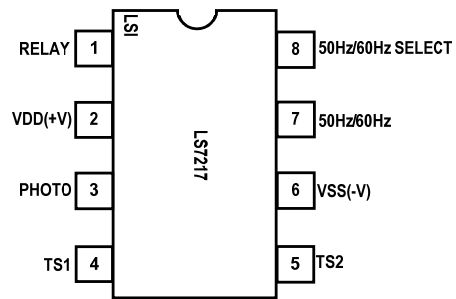

FIGURE 1
- LS7217 (DIP), LS7217-S (SOIC) – See Figure 1